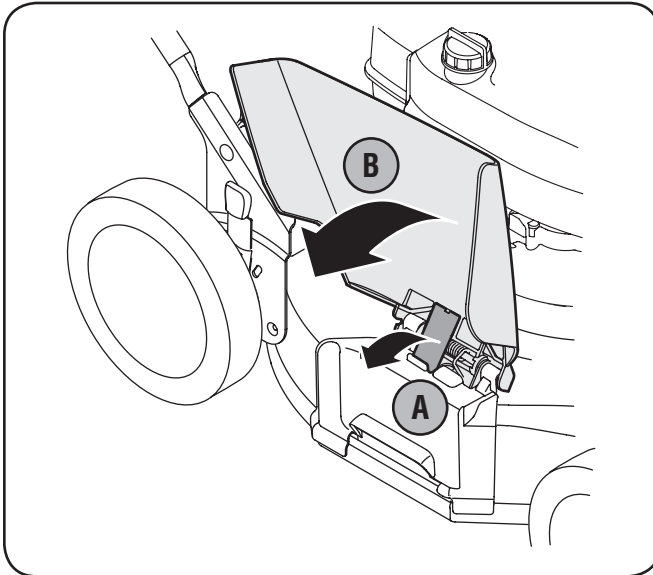

Figure 3-1
- Push chute deflector up towards engine. Holding deflector in this position, remove the retainer and discard. See Fig. 3-1.